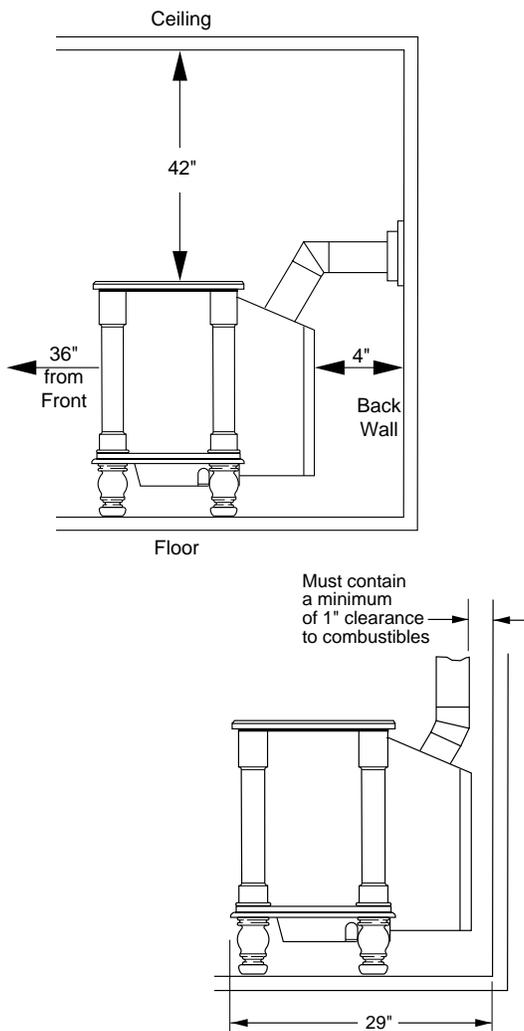

Figure 3 - Clearances for Standard Installation
3. Proper clearances must be maintained, see Figures 3 and 4 on page 5.
- You must maintain minimum wall and ceiling clearances shown in Figures 3 and 4, page 5.